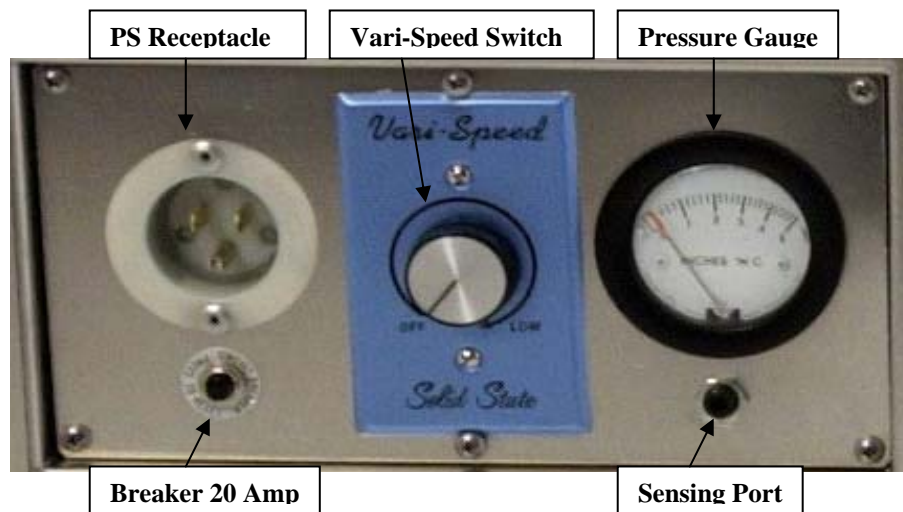
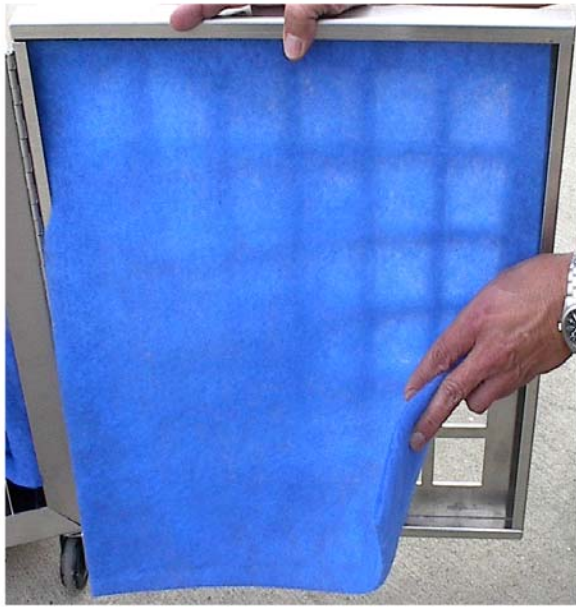
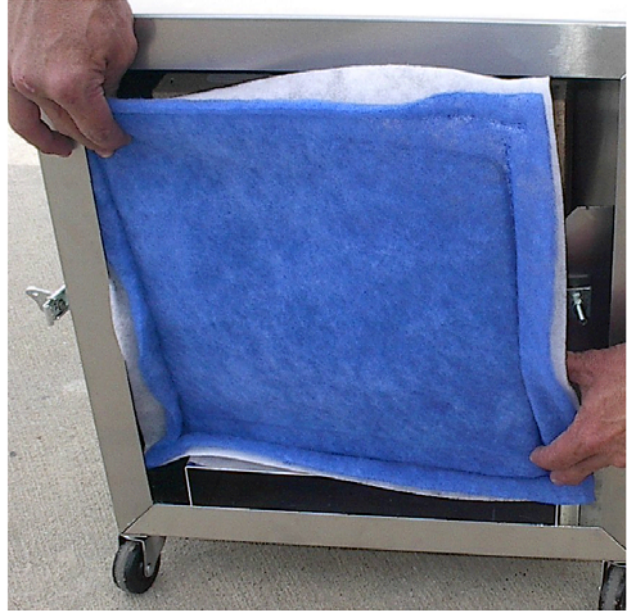

Fig. 1 Control Panel
Fig. 2 Pre-filter Pad
Fig. 3 Ring Panel Filter
- 3.4.3 To start the unit, the main switch is located on the control panel (see fig. 1) and is a variable speed switch. Turn the switch to the desire speed.
4.1.3 Removes large particles up to 10 microns and larger from the air flowing through the unit, thereby preventing premature loading of the second stage and HEPA filters. The pre-filter pad (see fig 2) needs to be changed as it becomes loaded and the airflow capacity of the unit decreases, or the pressure gauge at the control panel exceeds 1.9 inches of W.C. (see fig 1).
4.2.3 Removes particles up to 1 micron and larger from the air flowing through the unit, thereby protecting the more expensive, HEPA filter. The ring panel filter (see fig 3) needs to be changed as it becomes loaded and the airflow capacity of the unit decreases, or the pressure gauge at the control panel exceeds 1.9 inches of W.C. (see fig 1).
4.3.3 Removes smaller contaminated particles up to 0.3 micron from the air flowing through the unit and has an efficiency rating of 99.97%. The HEPA filter (see fig 4) need to be changed as it becomes loaded and the airflow capacity of the unit decreases, or the pressure gauge at the control panel exceeds 1.9 inches of W.C. (see fig 1). Or depending on the use, every 700 hours per agency recommendations.